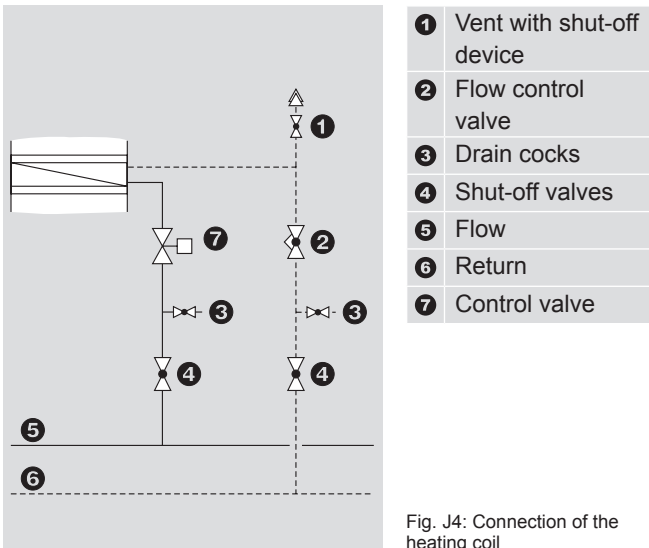

Fig. J4: Connection of the heating coil
- Connect the heating coils in accordance with Fig. J4. Depending on local circumstances it has to be checked whether compensators for the supply and return lines for compensation of the linear expansion and/or articulated connections are required for the units.